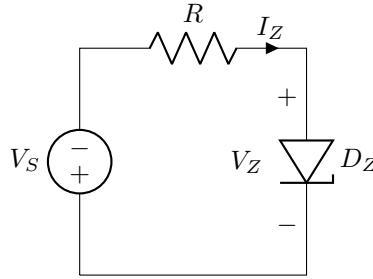

Figure 3: Zener diode characteristic measurement circuit. The Zener diode is reverse-biased with the cathode toward the positive supply.
You will now investigate the voltage regulation properties of a Zener diode operating in its breakdown region. Construct the circuit shown in Figure 3 using your Zener diode and a 100Ω resistor. Pay careful attention to the polarity: for the Zener to operate in breakdown, its cathode (the marked end) must be connected toward the positive terminal of the supply through the resistor, and its anode must be connected to ground. This is the reverse of normal diode operation.
4. For the Zener circuit in Figure 3, assume $V_S = 10$ V, $R = 100 \Omega$, and $V_Z = 5.1$ V (and assume this voltage remains constant in breakdown). Calculate (a) the current through the Zener diode, (b) the power dissipated by the Zener diode, and (c) determine whether this exceeds a 1 W power rating. Show all work.
5. Explain in your own words the difference between static (DC) resistance and dynamic (small-signal) resistance of a diode. Write the mathematical expression for calculating each type of resistance.